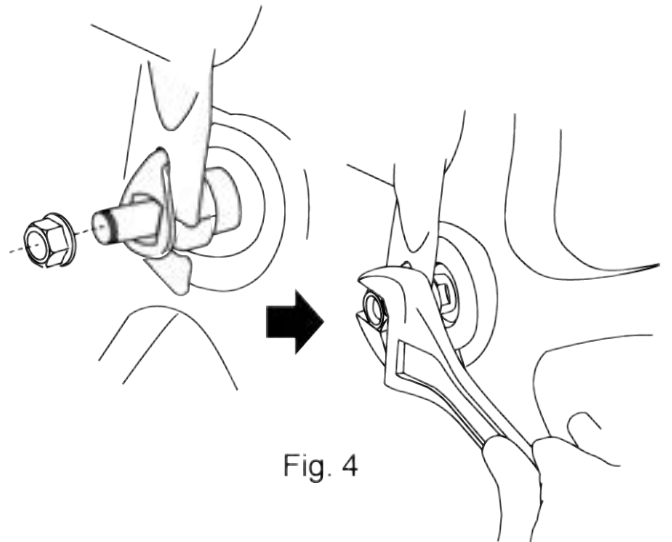

Fig. 4
- Install the axel lock nuts and tighten with standard wrench, box or open end wrench. The front axel lock nut will be fully tighten and securely fastened when there is significant resistance to front fork. Repeat on other side. The wheel should be held tightly in place (Fig. 4).